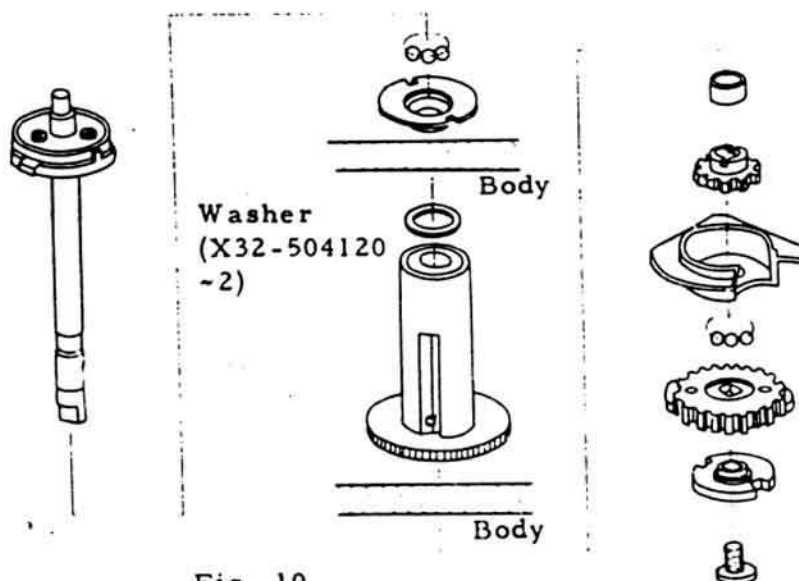

Fig. 10
- 4) Install each part as in Fig. 10.